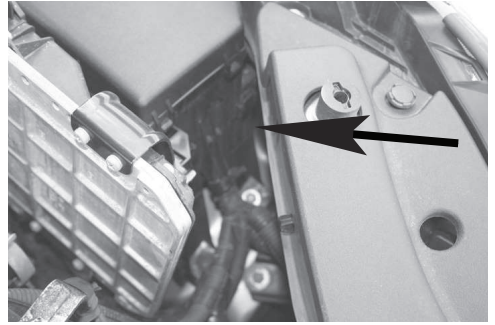

Figure 8
11. From inside the engine compartment shown in **Figure 8**, route a fish tape down, over the top of driver's wheel well.